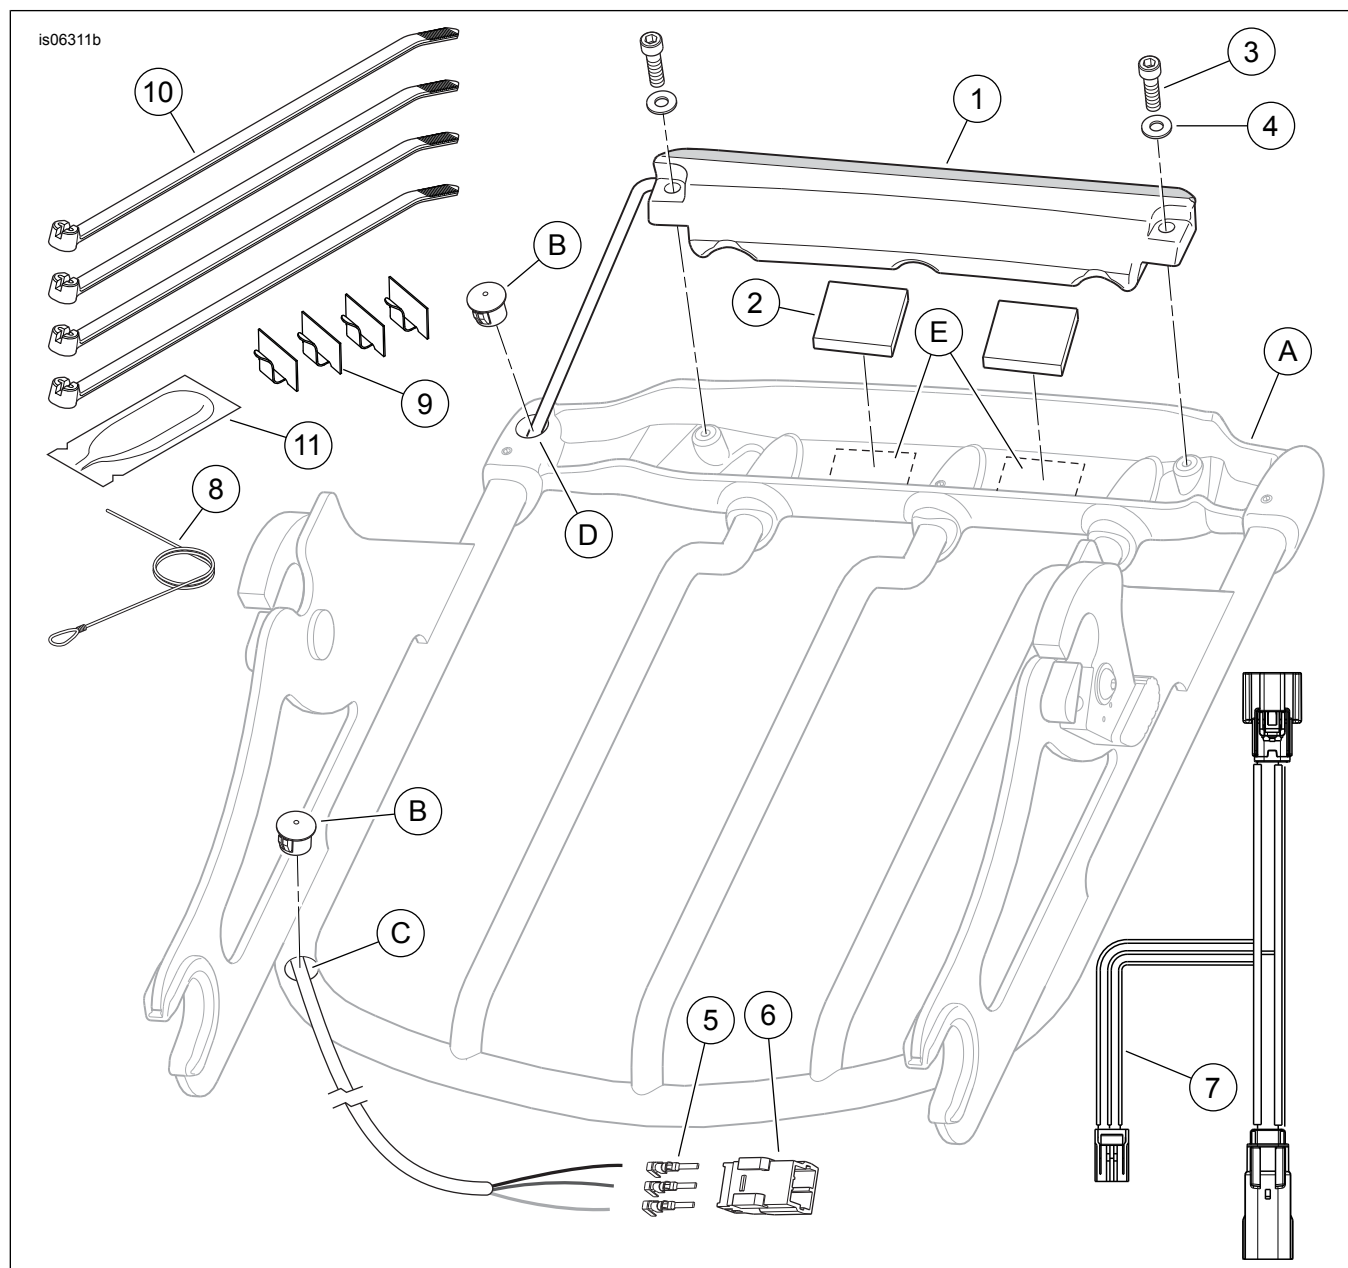

Figure 3. Service Parts, Air Wing Detachable Luggage Rack Light Kits
See Figure 3 and Table 1.
1. If not already in place, install the Detachable Docking Hardware Kit per the instructions in **that** kit. See Figure 3. If installed, remove the Air Wing Detachable Luggage Rack (A) from the vehicle and place it upside-down on the work surface.
2. Remove the black plastic plugs (B) from the holes at the front and back of the left side rail.
3. Insert the loop end of the nylon monofilament guide wire (8) through the forward hole (C) in the rail, and out through the rear hole (D). Allow the straight end to remain outside the forward hole.
4. Firmly attach the three wires of the light assembly (1) to the loop of the guide wire. Carefully pull the straight end of the guide wire to draw the wires and shrink tubing into and through the rail, and out the forward hole. Detach the light wires from the guide wire.
6. Remove the liner (4) from the adhesive backing on **one side** of a pad (2). Carefully position the pad to the top surface of the light (1), between the clearance notches, and press firmly into place. Repeat with the second pad.
7. See Figure 3. Remove the remaining liner from both pads, and install the light to the rear cross bar with two socket head screws (3) and flat washers (4), drawing the wiring out the forward hole (C) as the light is set in place. Tighten the screws securely.
3. See Figure 3. Connect the luggage rack light extension wire harness (7) to the main harness and the rear lighting harness.